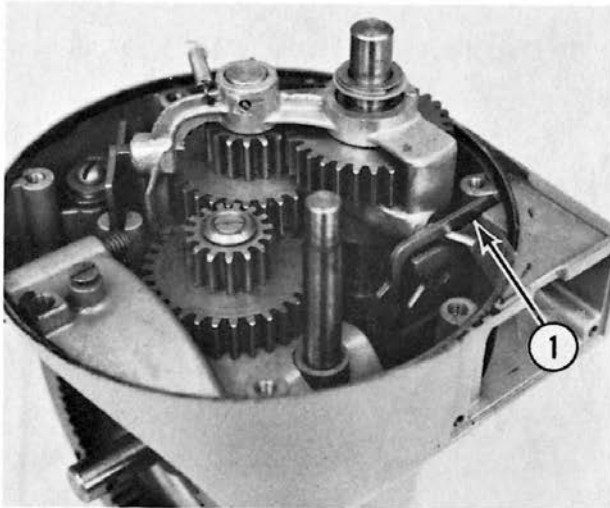

Fig. 3-33
- O. Install the cam plate (two screws) (1, Fig. 3-33).